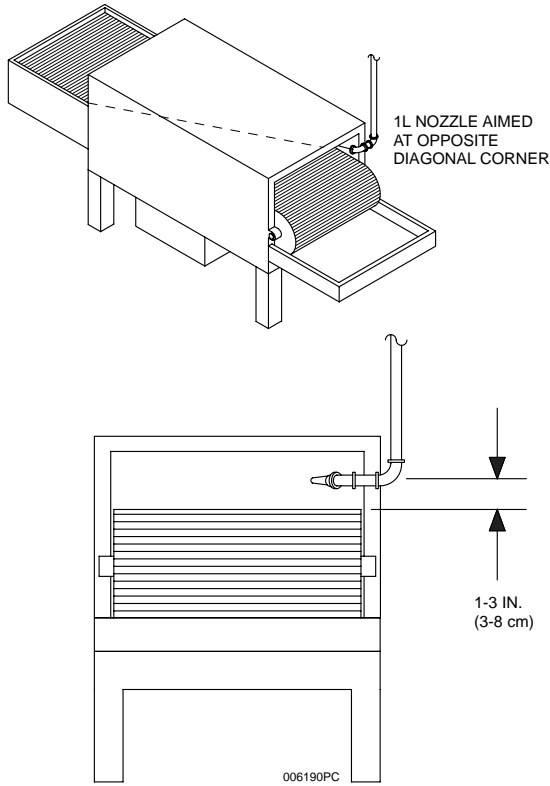

**Figure 3-15**
The 1L nozzle, Part No. 551026, is used for broiler protection. This nozzle is a one (1) flow nozzle. The nozzle must be located above the grate, at the front edge of the appliance, outside the broiling chamber, and pointed at the back opposite corner of the broiler chamber. The nozzle must be aimed parallel to the broiler grate surface. See **Figure 3-15**.